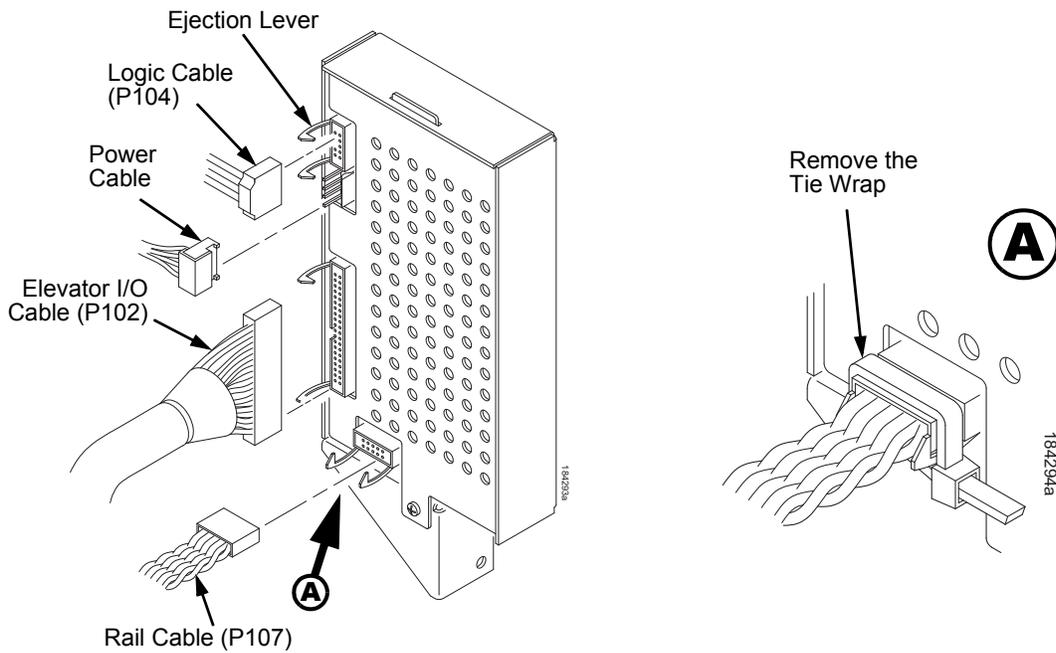

Figure 12. Removing Cables from the Stacker Control Panel
14. Remove four cables from the stacker control panel, and remove the stacker control panel. (Figure 12.)